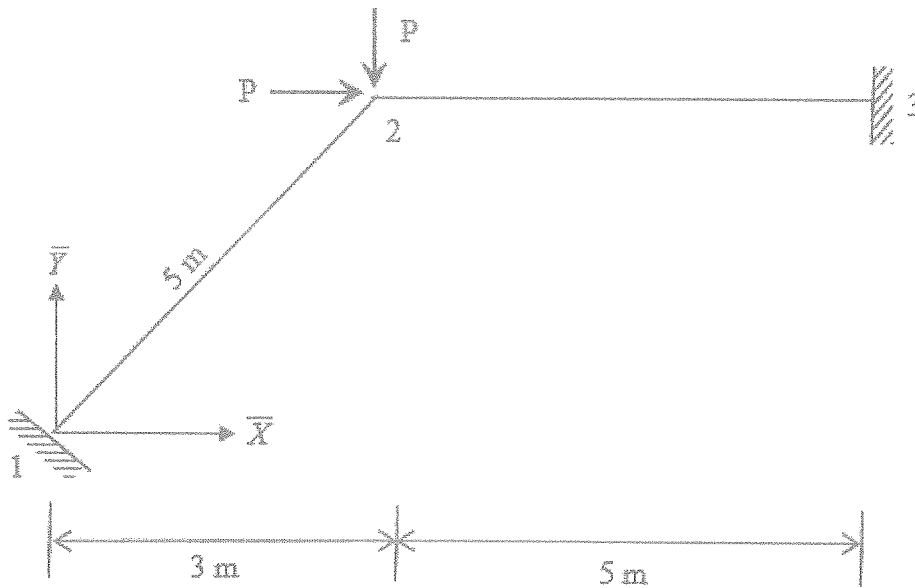

Fig. Q5
- b) An idealized two-dimensional frame structure is shown in Fig. Q5. Both members have constant flexural rigidity of EI and the axial deformations are considered negligible. Vertical and horizontal point loads with magnitude P have been applied at the node 2 as shown in Fig. Q5. General element stiffness matrix for a beam element with usual notations is as follows.
- (i) Determine the degree of kinematic indeterminacy (KI°) of the structure shown in Fig Q5.